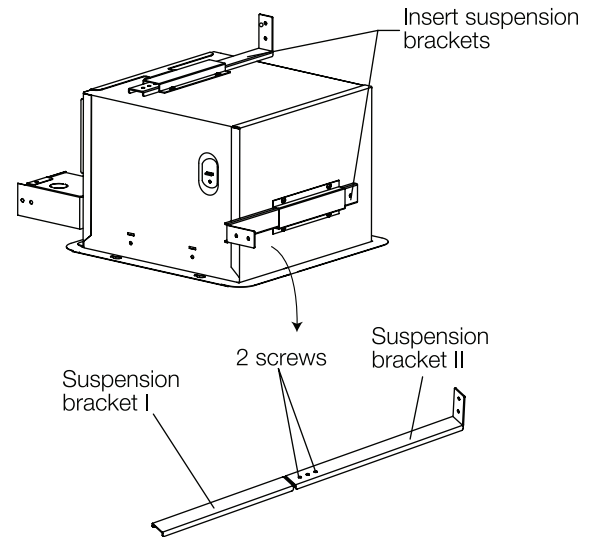

Fig. 1
1. Insert the suspension bracket into the fan body. If spacing between joists is 21 1/4" to 23 1/2" (54 cm to 59.7 cm) connect suspension brackets I and II (Fig. 1).